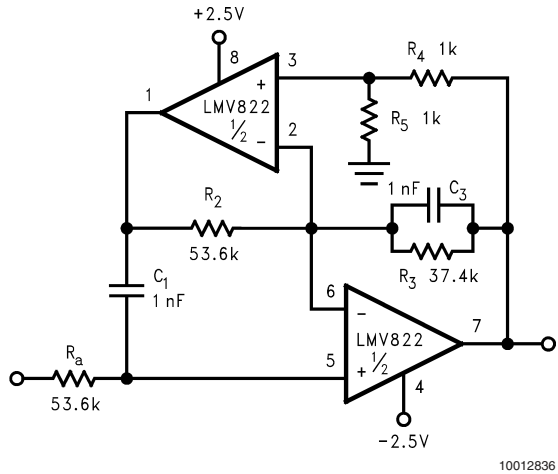
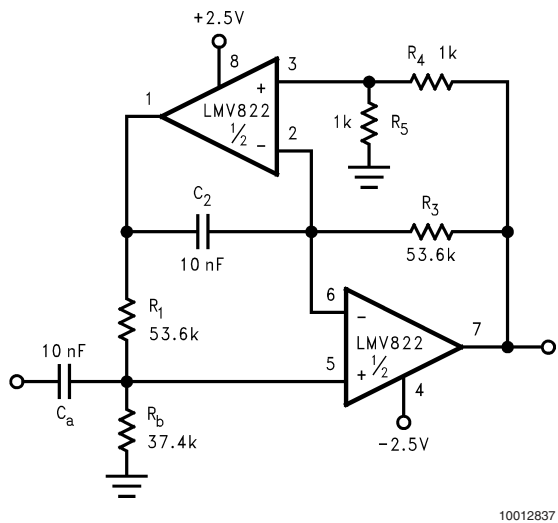
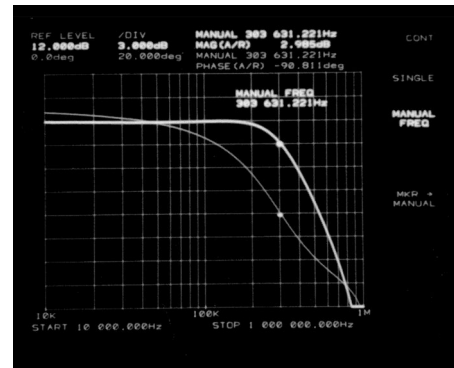

FIGURE 10. Dual Amplifier, 3 kHz Low-Pass Active Filter with a Butterworth Response and a Pass Band Gain of Times Two
FIGURE 11. Dual Amplifier, 300 Hz High-Pass Active Filter with a Butterworth Response and a Pass Band Gain of Times Two
FIGURE 12. 300 kHz, Low-Pass Filter, Butterworth Response as Measured by the HP3577A Network Analyzer
The LMV822/24 bring economy and performance to DAAF's. The low-pass and the high-pass filters of *Figure 10* and *Figure 11* (respectively), offer one key feature: excellent sensitivity performance. Good sensitivity is when deviations in component values cause relatively small deviations in a filter's parameter such as cutoff frequency (F_c). Single amplifier active filters like the Sallen-Key provide relatively poor sensitivity performance that sometimes cause problems for high production runs; their parameters are much more likely to deviate out of specification than a DAAF would. The DAAF's of *Figure 10* and *Figure 11* are well suited for high volume production.
Single Amplifier versions require a large open-loop to closed-loop gain ratio - approximately 50 to 1, at the Fc of the filter response. *Figure 12* shows an impressive photograph of a network analyzer measurement (hp3577A). The measurement was taken from a 300 kHz version of *Figure 10*. At 300 kHz, the open-loop to closed-loop gain ratio @ Fc is about 5 to 1. This is 10 times lower than the 50 to 1 "rule of thumb" for Single Amplifier Active Filters.
In addition to performance, DAAFs are relatively easy to design and implement. The design equations for the low-pass and high-pass DAAFs are shown below. The first two equations calculate the Fc and the circuit Quality Factor (Q) for the LPF (*Figure 10*). The second two equations calculate the Fc and Q for the HPF (*Figure 11*).
To simplify the design process, certain components are set equal to each other. Refer to *Figure 10* and *Figure 11*. These equal component values help to simplify the design equations as follows:
To illustrate the design process/implementation, a 3 kHz, Butterworth response, low-pass filter DAAF (*Figure 10*) is designed as follows: